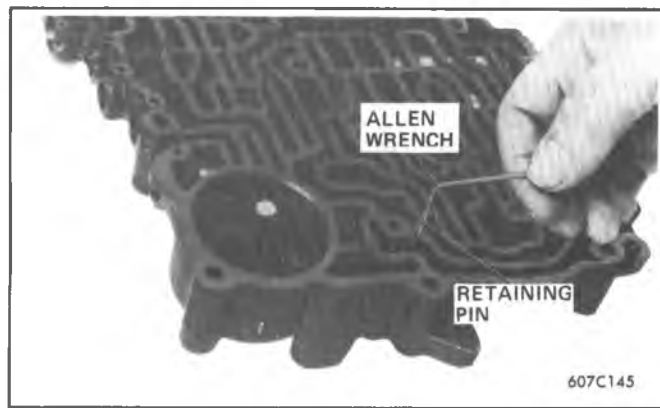

Figure 7A1-182 Removing Inner Coiled Retaining Pin
aligning bushing so the pin can be installed in the pin slot. (See Figure 7A1-183 for pin slot and identification of 1-2 throttle valve bushing).
10. In next bore up, install 2-3 shift valve, longer stem end out, making sure valve is seated at the bottom of the bore. Install 2-3 throttle valve spring into the 2-3 throttle valve bushing and 2-3 throttle valve, stem end first, into the bushing. Install these 3 parts, valve end first, into the bore, aligning bushing so pin can be installed in the pin slot. (Figure 7A1-184).